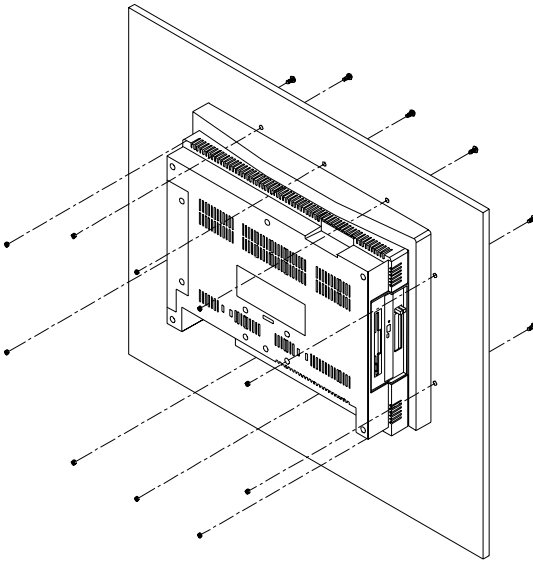

Figure E.2: Panel mounting
2. Insert the screws from the front side into the holes and tighten them with the nuts provided. (See Fig. E-2)